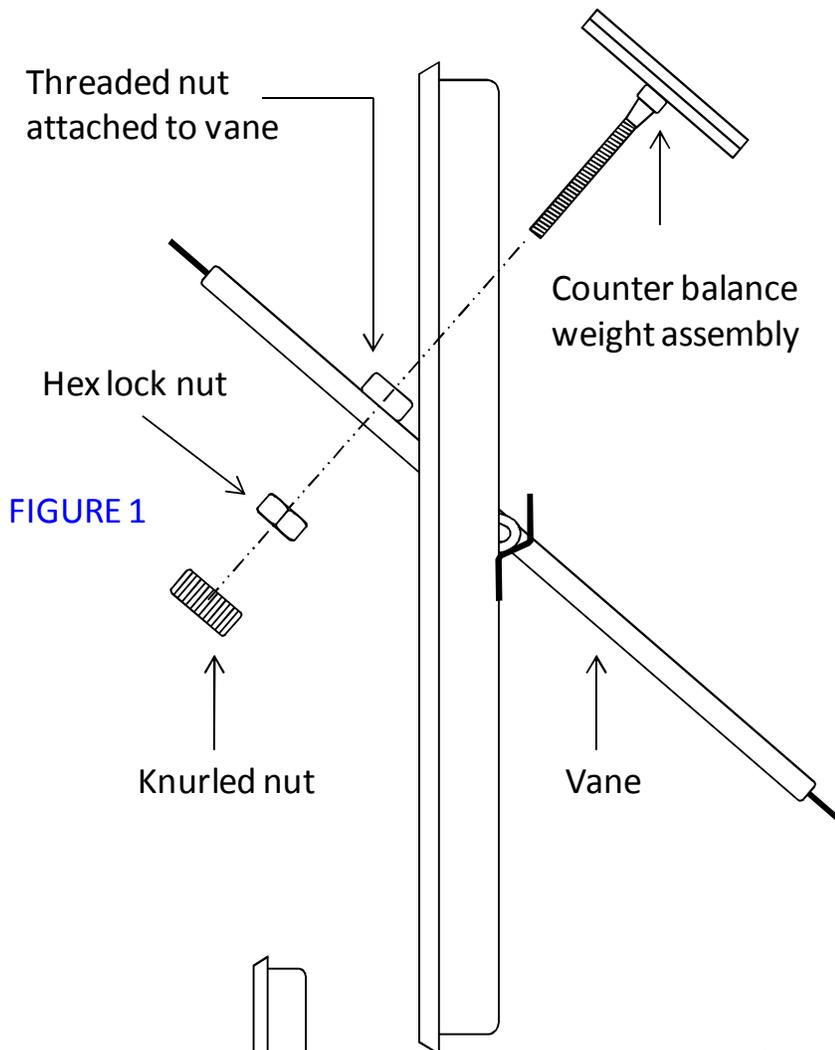

FIGURE 1
2. Thread "counter balance weight" through "threaded nut" attached to the vane as shown in figure 1. Thread weight assembly through vane approximately  $\frac{2}{3}$  of the way to allow space to attach the hex and knurled nut (figure 2).